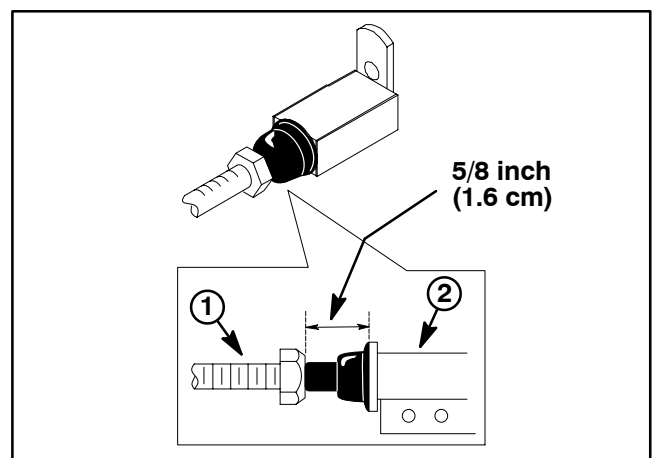

Figure 12
4. With the accelerator pedal released, check that the distance between the head of the accelerator switch stop cap screw and the body of the switch is 5/8 inch (1.6 cm) (Fig. 12).